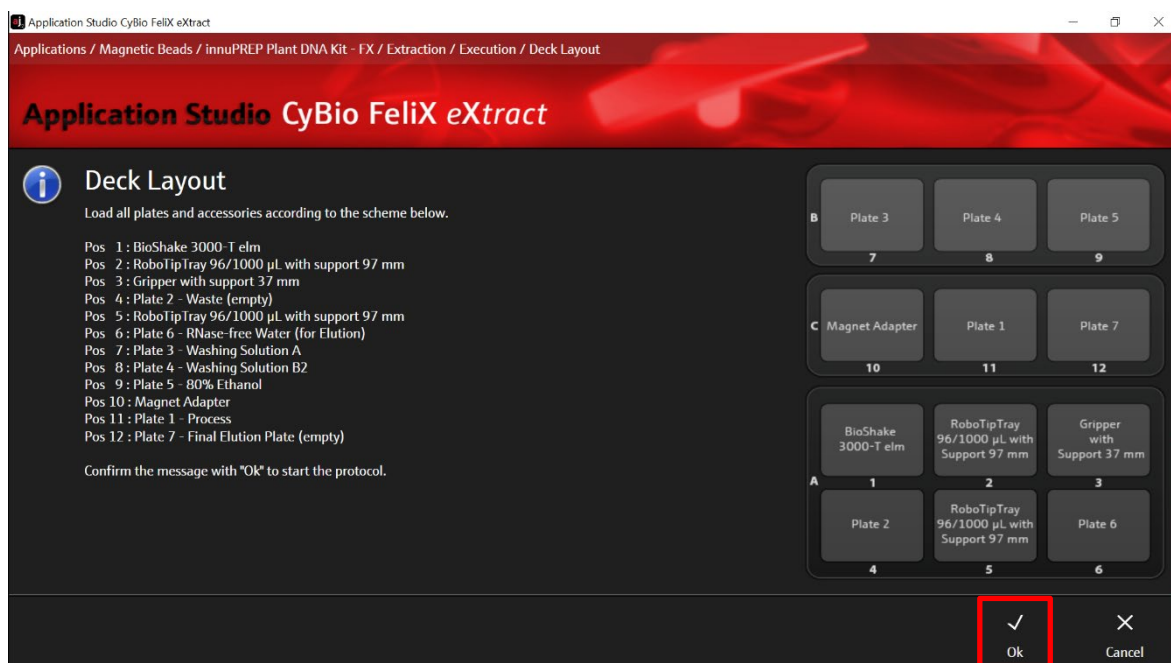

Figure 16: Deck layout for the final hardware check for the extraction.
9. After selecting “Execute” the deck layout is shown. Check the correct positions of the plates and accessories and confirm the message with “Ok” to start the protocol (→ see Figure 16).